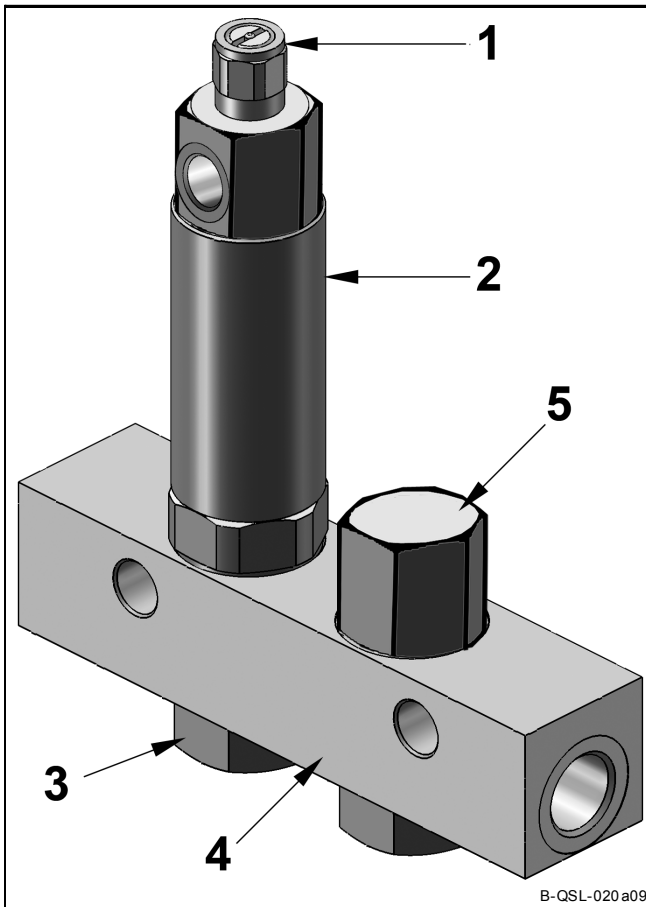

Fig. 1 Components des QSL metering device
- control pin fitting 1 (Fig. 1), for visual functioning control